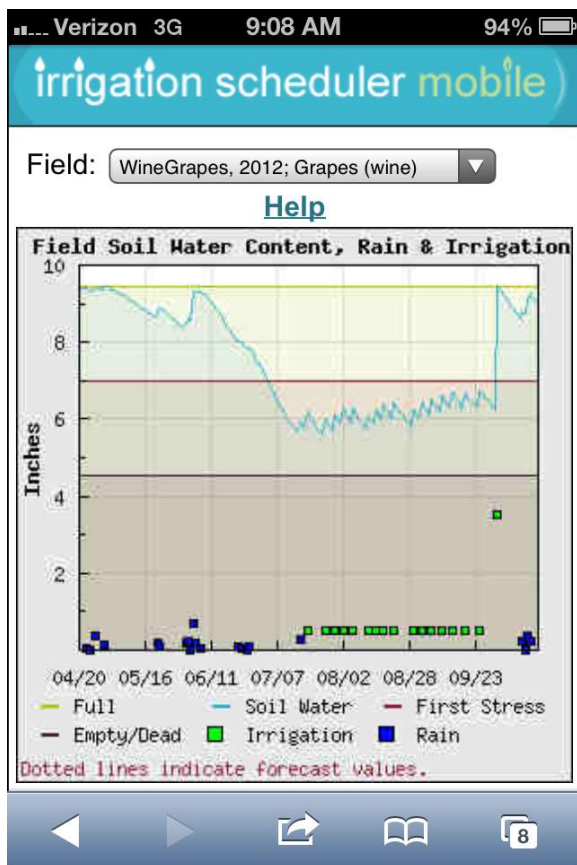

Figure 29. Water stressing wine grapes. Irrigation after harvest was done to restore the health of the vines.
**Deliberate Water Stress:** With some crops, such as wine grapes, it is desirable to deliberately cause water stress to get the desired crop quality results. Recall that the plant will see approximately linearly increasing water stress from barely any at the red, First Stress (MAD) line to maximum stress at the black, Empty/Dead (Permanent Wilting Point) line (see Figure 5). Deliberately causing stress is done by purposefully allowing the soil water to dry down below the First Stress line (Figure 29).